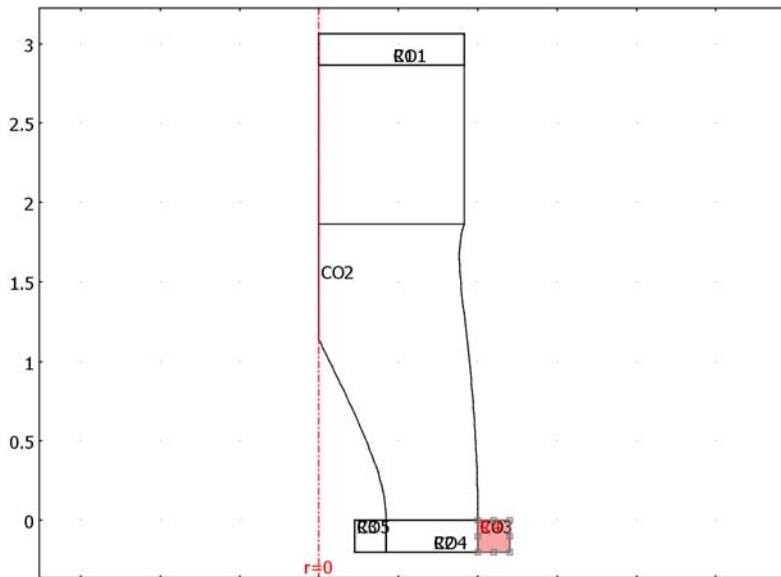

Figure 3-18: The axisymmetric duct geometry with auxiliary PML domains (R1–R4).
- 11 Click the **Zoom Extents** button on the Main toolbar to get a proper overview of the duct geometry, which should look like the one in Figure 3-18.